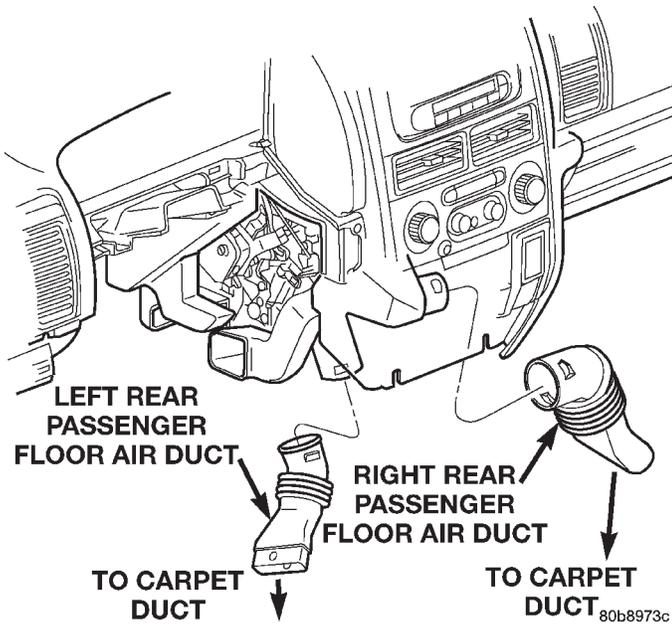

Fig. 49 Rear Floor Heat Ducts
(11) Remove the rear floor heat ducts from the floor heat duct outlets (Fig. 49).